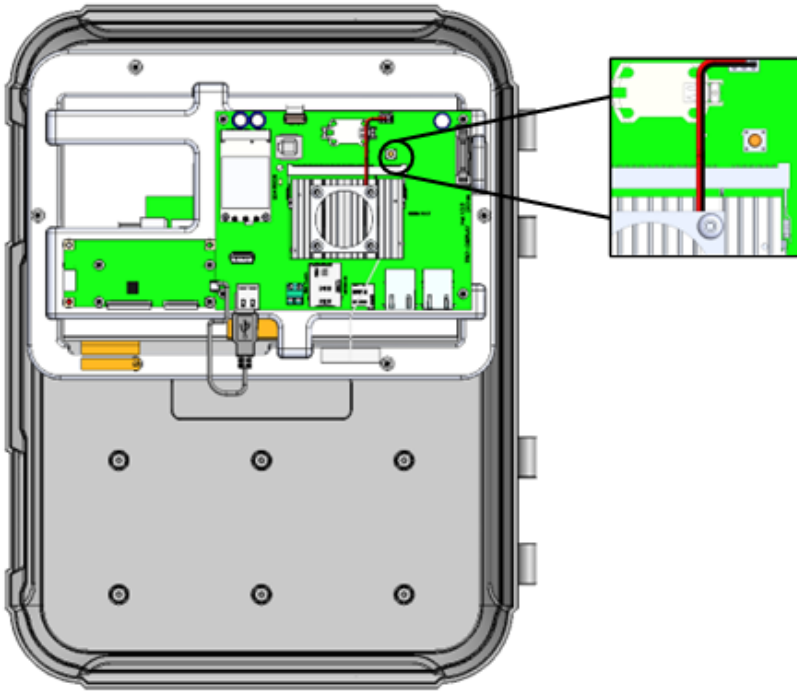

Figure 10: CPU Reset Button
- To reset the unit's connection to the sensors, press the button shown in Figure 10.